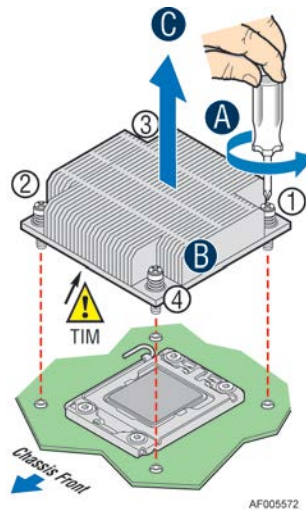

Figure 26. Removing Processor Heatsink
- Remove the processor heatsink, see Figure 26.